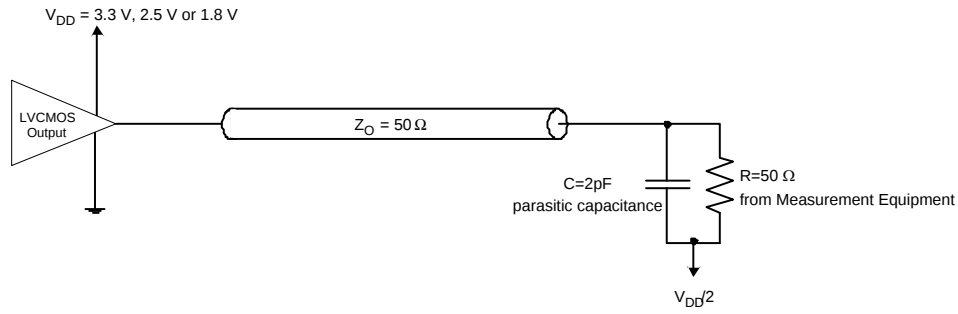

Figure 2. Test Load Circuit
4. All typical values are at respective nominal V_{DD}. For switching characteristics, outputs are terminated to 50 Ω to V_{DD}/2 (see Figure 2).